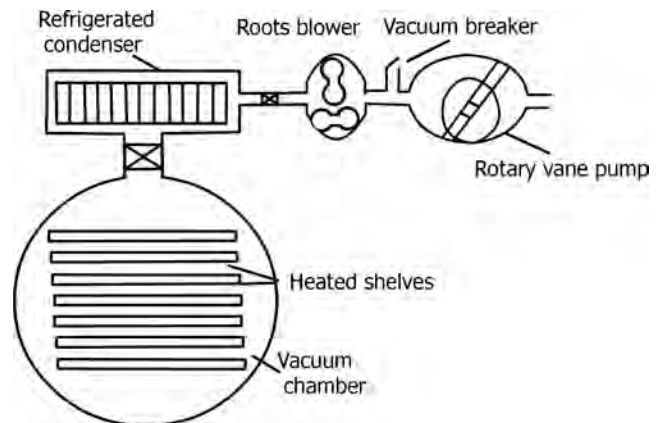

FIGURE 18.34 Main components of a batch freeze dryer.
- Figure 18.34 gives the important components of a freeze dryer.